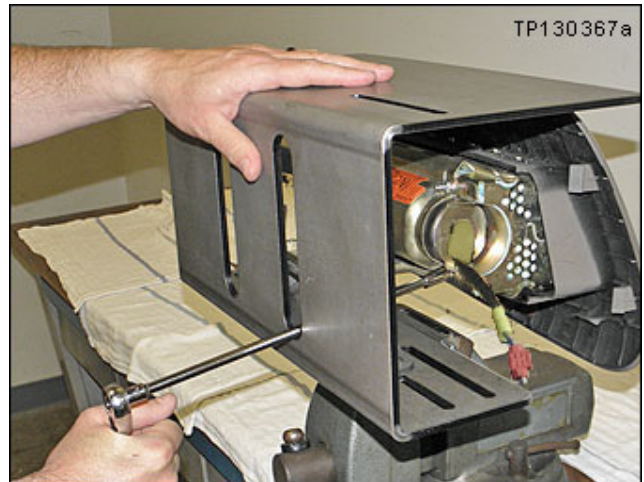
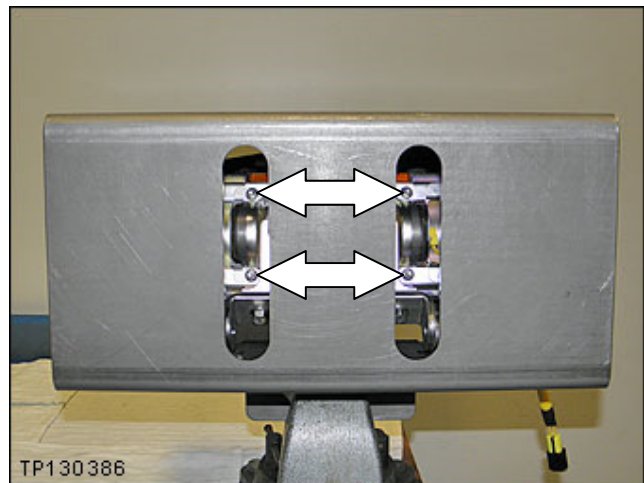

Figure 22
Figure 23
25. Remove the four (4) nuts from the module that hold the inflator in place (see Figure 22 and Figure 23).